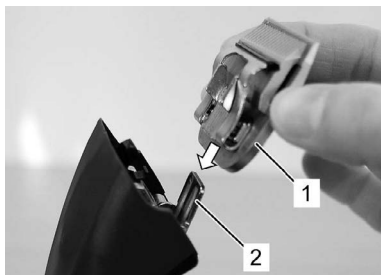

Fig. 15
6. Fit the favoured clipperhead to the blade hinge and fold it on to the switched-on clipper by light pressure. (fig. 15, 16, 17).